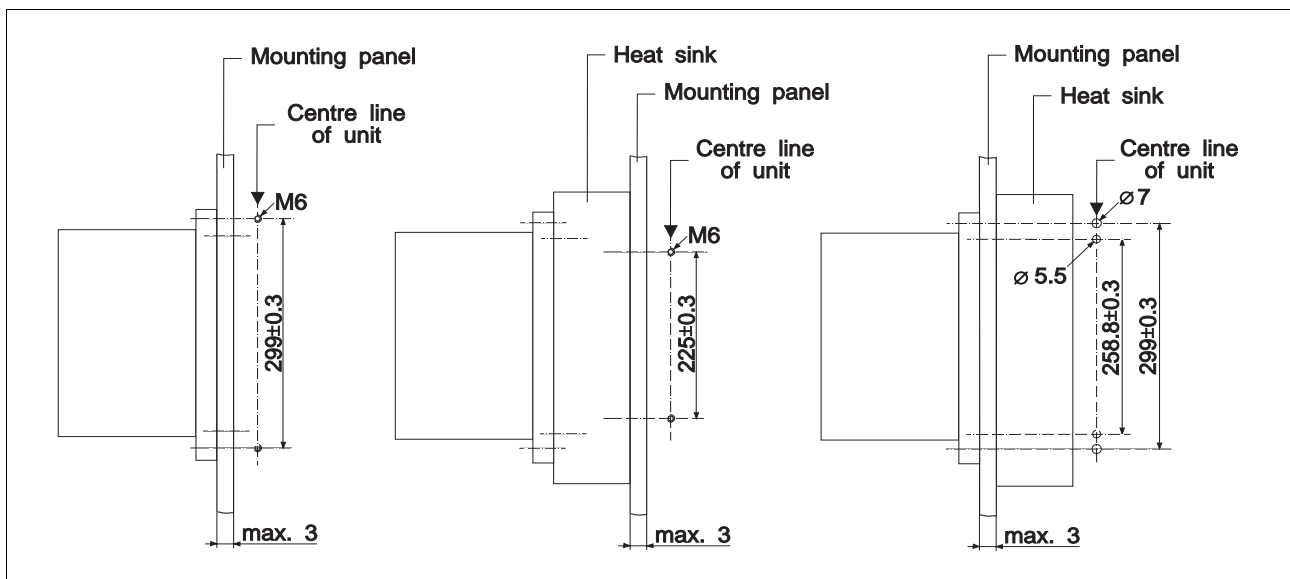

Fig. 6-11 Drilling pattern
2. Drill two holes in the mounting panel (fig. 6-11) and cut M6 thread.
2. Drill four holes (fig. 6-11) in the mounting panel.